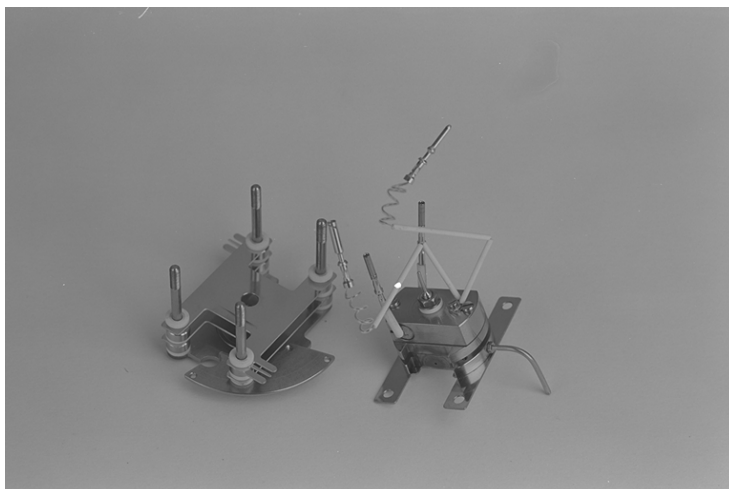

Figure 4-14. Exit plate removed from source block
7. For EI sources, remove the source block on the ion exit plate and then remove the exit plate from the block (see Figure 4-14).